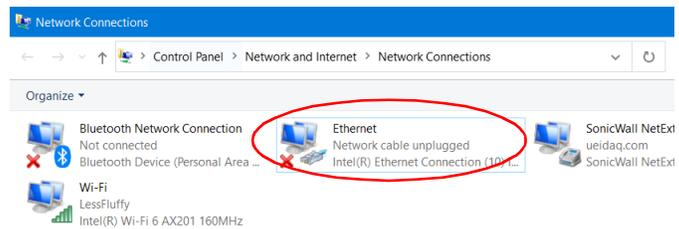

Figure B-3 Network Connections Window
STEP 4: In the *Network Connections* window, double-click the network interface you are connecting to the Cube/RACK. This will typically be labeled *Ethernet* (Figure B-3) or *Local Area Connection* if you are using your primary network interface card (NIC).